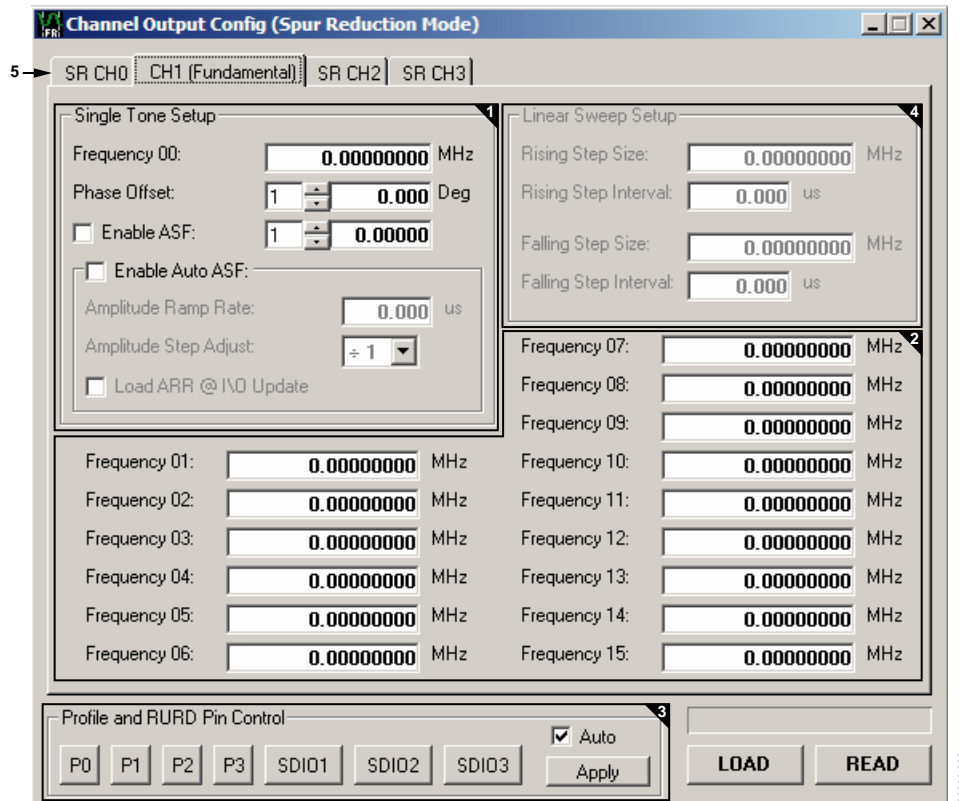

Figure 13. Channel Output Config Window in Spur Reduction Mode
The **Channel Output Config** window configures various output characteristics of the channel(s). **CH1 (Fundamental)** is used for the fundamental channel output. **SR CH0**, **SR CH2**, and **SR CH3** are the spur reduction channels. The following sections describe the elements that are numerically indexed in Figure 13.
The **AD9911** features up to 16 programmable registers per channel as shown in Figure 13. Because of certain channel constraints, however, there are limitations on how the profile registers can be used in some configurations. This is further described in the **AD9911** data sheet.
- Using the **Channel Output Configuration** window (see Figure 13), enter the desired fundamental frequency (**CH1 Fundamental** tab) directly into the **Frequency 00** box by double-clicking the box. Click **LOAD**. If you intend to use the auto scale factor (**Enable ASF**), enter the value now. Click **LOAD**.
- Once the amplitude is matched, reset the frequency of the spur reduction signal exactly the same as the harmonic. The software autocalculates the harmonic frequency out to the 14th harmonic. Use the drop-down menu next to the frequency box to access the autocalculated values (see Figure 13).
2. Using the **Channel Output Config** window (see Figure 13), click the **CH1 (Fundamental)** tab. Type in the fundamental frequency and amplitude.